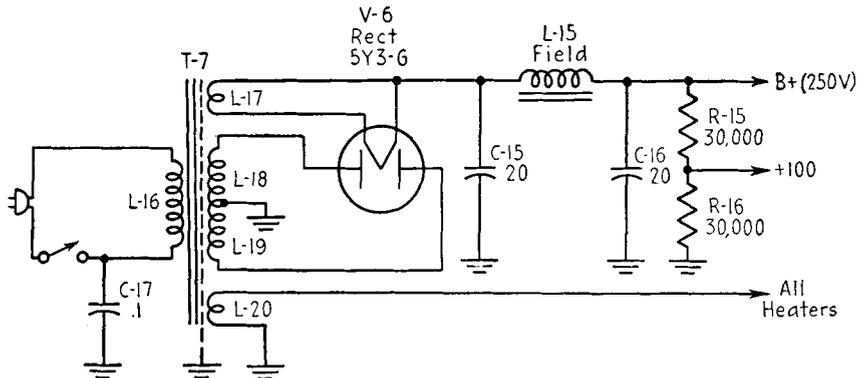

FIG. 8-2. Standard circuit of AC power supply.
**Standard circuit.** See Fig. 8-2.